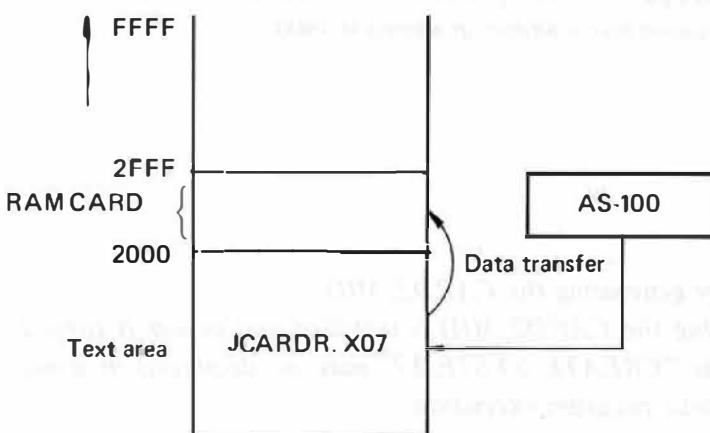

Fig. 3
2. Transfer the CARD2. MID from the AS-100. (See Figure 3 for details.)